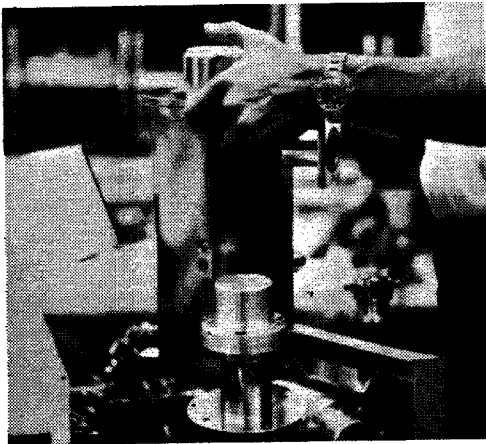

Figure 6-14. Removing Cold Trap Housing
4. Lift out the cold trap housing, complete with pump valve (Figure 6-14).